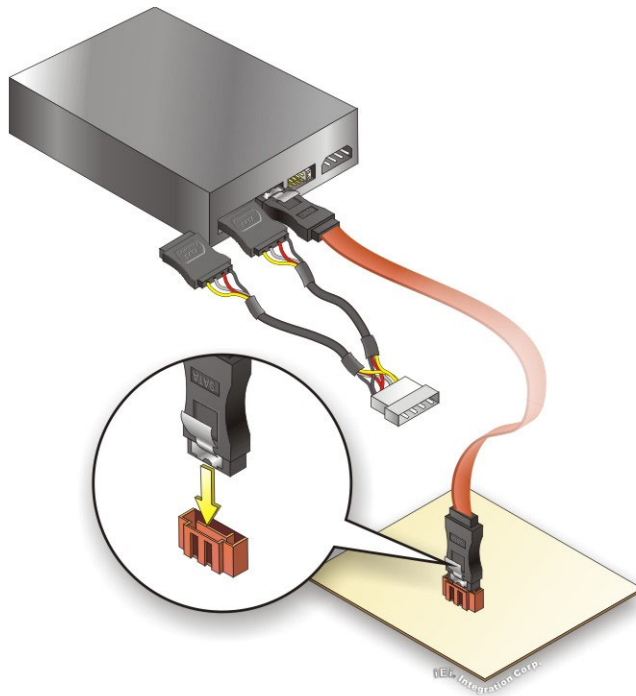

Figure 4-19: SATA Power Drive Connection
- Step 3:** **Connect the cable to the SATA disk.** Connect the connector on the other end of the cable to the connector at the back of the SATA drive. See **Figure 4-19**.
- Step 4:** **Connect the SATA power cable.** Connect the SATA power connector to the back of the SATA drive. See **Figure 4-19**.